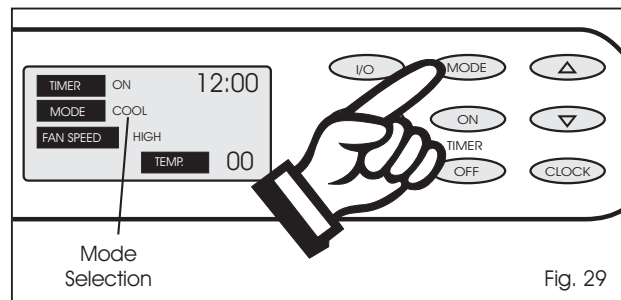

Fig. 29
- 2) Select the appropriate **MODE** under which you want the unit to operate (**Cool-Heat-Dry-Fan**). Fig.29.